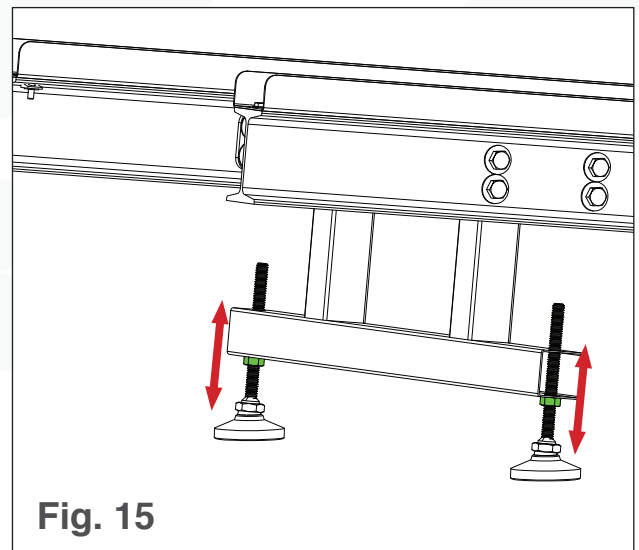

Fig. 15
- Use a  $\frac{7}{16}$ " wrench to twist the adjustment nut on the upper cross brace leveling feet (highlighted in green in Fig. 15).